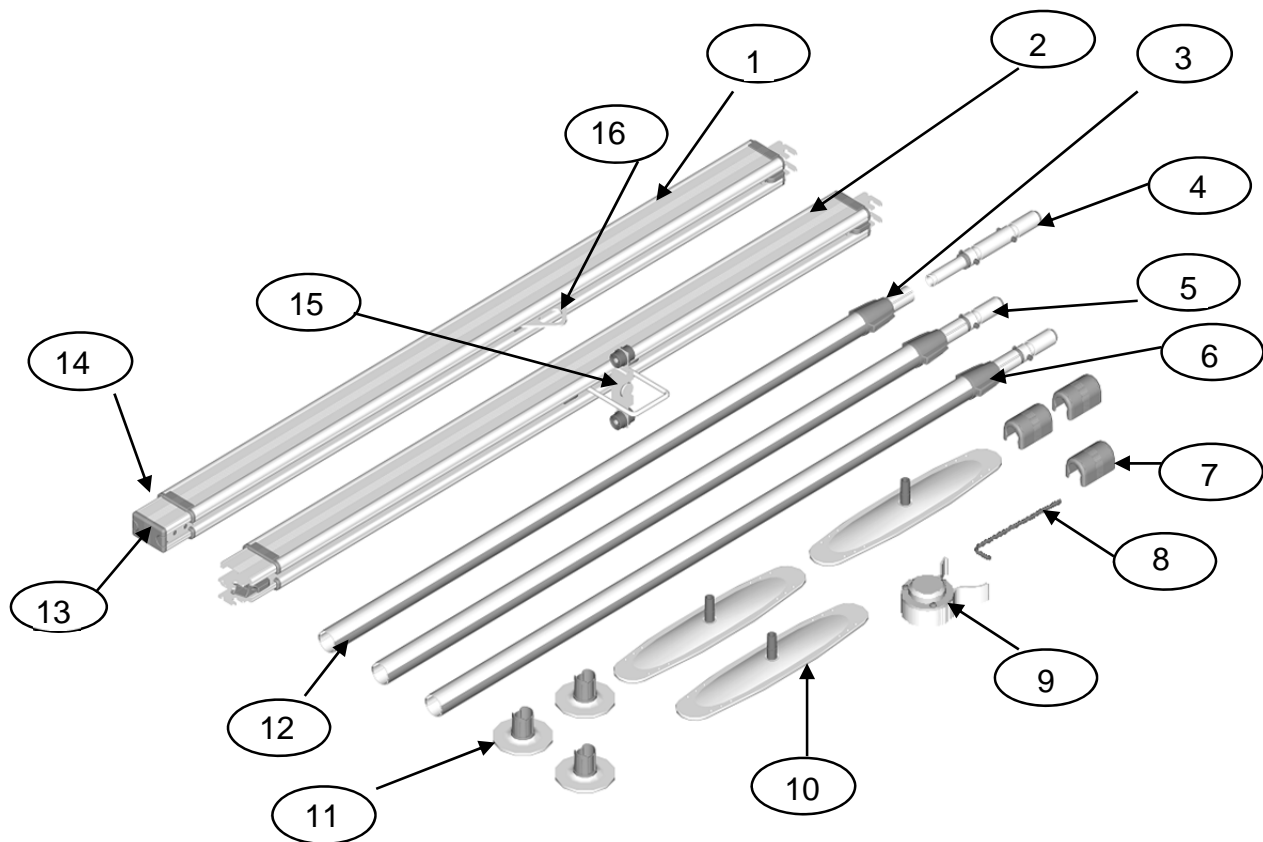
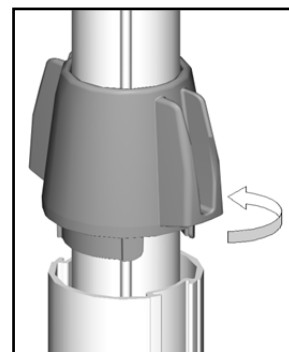

Figure 9
Figure 21
Note: Pivot and Standard posts are different - see Figure 9 for more details.
2. Remove the round blue cap (see Figure 9 – item #7) from the top of each post by pulling them away from the post (see Figure 11).
4. Place one round foot plate (see Figure 9, item #11) on the floor where you want to place the first post of the Easytrack System.
5. Take the pivot post (see Figure 9, item #3) out of the box and the post top for pivot post (see Figure 9, item #4). Insert the post top into the post until it snaps into place (see Figure 13).
6. Take top plate (see Figure 9, item #10) and clip-on level (see Figure 9, item #9) out of the box. Place the clip-on level onto the post at approximately waist height (see Figure 14).
10. Lift the blue locking handle out of the lower portion of the post (see Figure 9, item #6). Using the blue piece as a handle, twist the post as follows (see Figure 21):
15. Get the Extendable Rail with the swivel trolley (see Figure 9 – item #2).
19. Take the Pivoting Extendable Rail with standard trolley out of the box (see Figure 9 – item #1).
20. Take the flat blue cap (see Figure 9 – item #13) off of the end of the rail (see Figure 31).
- Using the Allen key (see Figure 9 – item #8) provided, loosen the stopper in the upper portion of the rail and slide it out of the rail (see Figure 33).